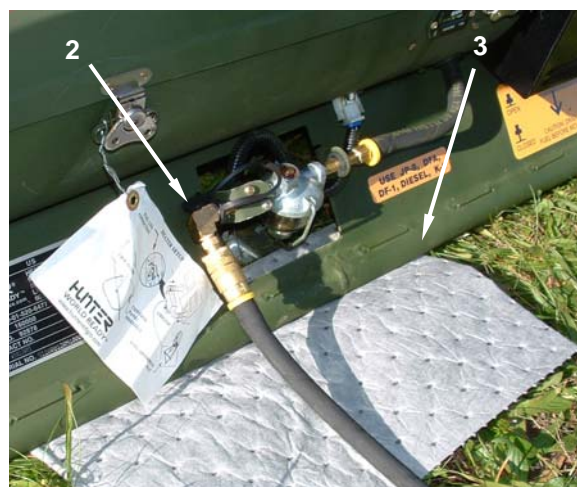

Figure 13. Connect Fuel Hose to Heater.
1. Before connecting the fuel hose (**Figure 13, Item 1**) to the fuel quick disconnect on the heater (**Figure 13, Item 2**), position a section of petroleum absorbent mat (**Figure 13, Item 3**) under the fuel quick disconnect connector (**Figure 13, Item 2**).
2. Remove the protective dust cap, place it behind the quick disconnect connector (**Figure 13, Item 2**), and attach the quick disconnect connector on the end of the fuel hose (**Figure 13, Item 1**) coming from the Y - adapter (**Figure 13, Item 4**) to the fuel quick disconnect (**Figure 13, Item 2**) on the heater assembly. Make sure the hose lies flat and is not kinked or looped.
3. Open the valves on the Y adapter (**Figure 13, Item 4**).